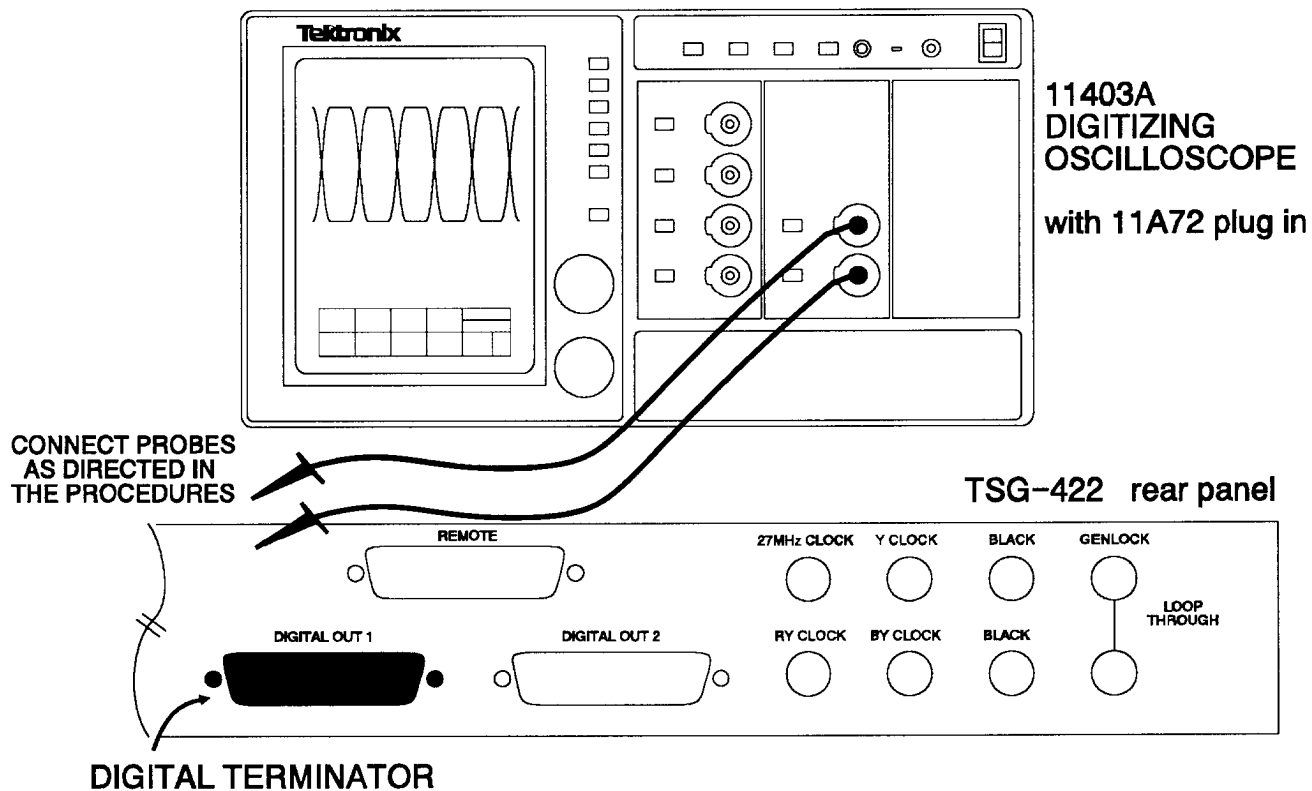

Fig. 5-3. Setup to check the DIGITAL VIDEO Outputs.
- a. Connect the equipment as shown in Fig. 5-3.
- Connect the equipment as shown in Fig. 5-3.
- Adjust the horizontal position on the oscilloscope to center the data crossing point (X).